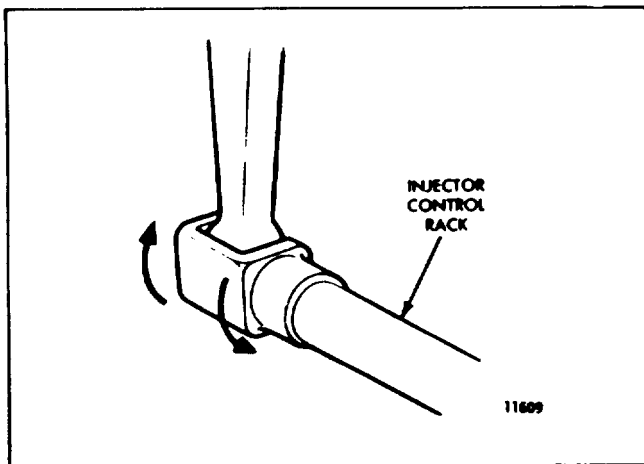
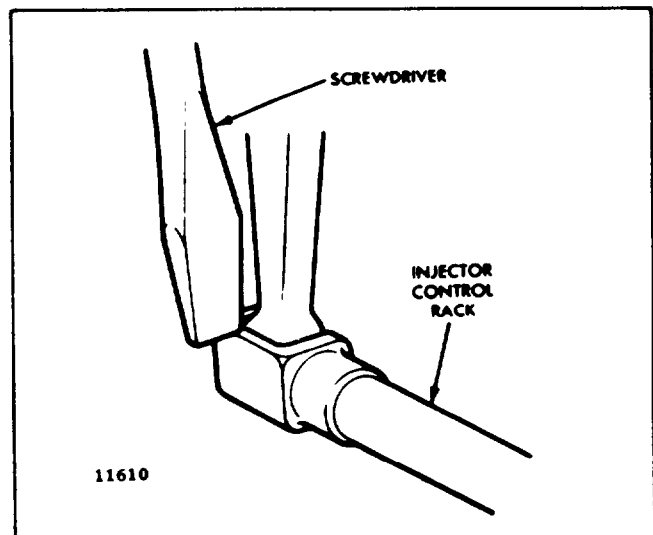

Fig. 3 - Checking Rotating Movement of Injector Control Rack
Fig. 4 - Checking Injector Rack "Sgring"
6. To be sure of the proper rack adjustment, hold the speed control lever in the full-fuel position and press down on the injector rack with a screw driver or finger tip and note "rotating" movement of the injector control rack (Fig. 3) when the speed control lever is in the maximum speed position. Hold the speed control lever in the maximum speed position and, using a screw driver, press downward on the injector control rack. The rack should tilt downward (Fig. 4) and when the pressure of the screw driver is released, the control rack should "spring" back upward.